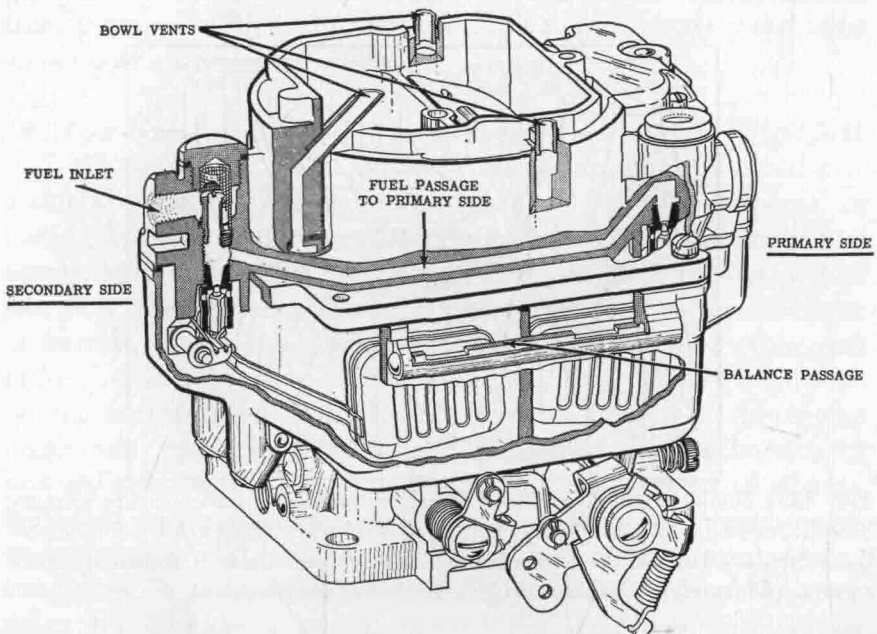

FIG. 5-21. Float system of four-barrel carburetor. (*Oldsmobile Division of General Motors Corporation*)
§90. Four-barrel carburetor The four-barrel carburetor (Figs. 5-21 to 5-25) consists, in effect, of two dual carburetors combined into a single assembly. The carburetor assembly has four air horns, or barrels, each with its own venturi, throttle valve, and main fuel nozzle. Since it has four barrels, and thus four main nozzles, or fuel jets, it is often called a *quadrijet carburetor*. One set of air horns, or barrels, makes up a primary dual carburetor. The other pair makes up a secondary dual carburetor. The primary dual carburetor is responsible for delivery of air-fuel mixture to the engine under most operating conditions. The primary dual carburetor, or *primary side*, as it is called, contains a full complement of circuits, including idling-and-low-speed circuit, high-speed circuit, accelerator-pump circuit, and choke circuit. Thus, under most operating conditions, it alone takes care of engine requirements. However, when the throttle is moved toward the wide-open position for acceleration or full-power operation, then the secondary dual carburetor, or *secondary side*, comes into operation and supplies additional air-fuel mixture. This combination permits satisfactory and economical part-throttle operation. At the same time, improved full-throttle operation is attained, since with wide-open throttle, the passage space for air-fuel mixture to enter the engine is doubled (from two to four barrels). Greater amounts of air-fuel mixture can enter the engine for improved high-speed, full-power performance. The following paragraphs describe the features of this carburetor.
2. *Float circuit.* Figure 5-21 illustrates the float circuit of the carburetor assembly. The primary and secondary sides of the assembly (each consisting of two barrels) have their own float circuits with separate float assemblies and needle valves. The two float bowls are separated by a partition, but both vent into the carburetor air horn. A connecting passage between the two float bowls permits the fuel levels and air pressures to balance between the two float bowls.
5-22. This illustration shows the primary and secondary sides separated so the circuits can be seen. Actually, they are one assembly as shown in Fig. 5-21 or 5-24. Note that, on the carburetor model illustrated, the secondary side has a fixed idle circuit. A fixed amount of air-fuel mixture can discharge through it. The primary side has standard adjustable idle circuits (one for each barrel). Adjustment can be made on the primary side alone (by